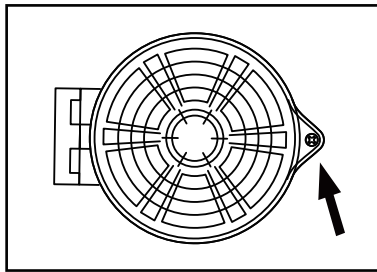

Fig. 3
1. Depress door tab using a cross screwdriver (19,20) and loosen the screw on the door to open vacuum inlet door (Fig. 3).